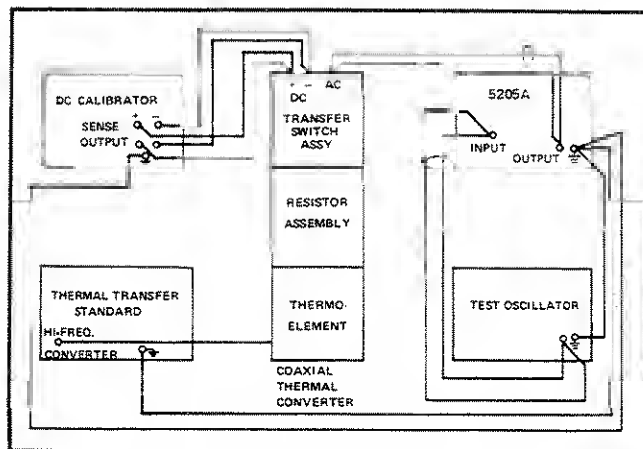

Figure 4-2. LOCAL AND REMOTE MODES CONNECTIONS.
- Connect the test equipment as shown in Figure 4-2.
- a. Leave the equipment connected as shown in Figure 4-2.